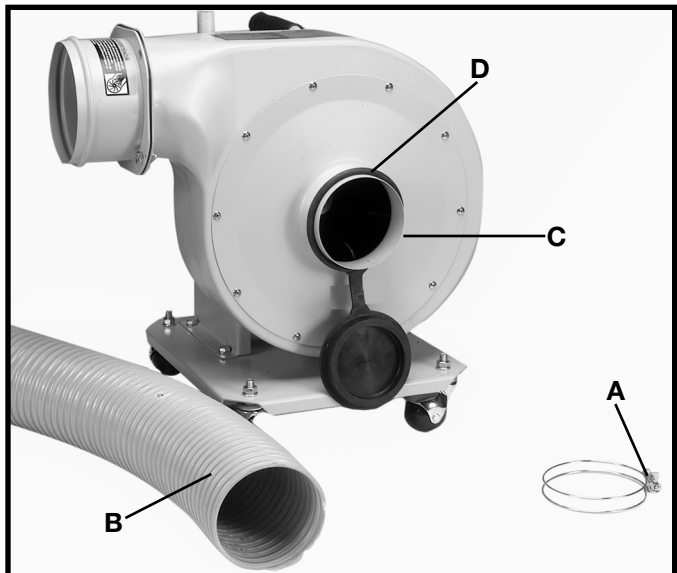
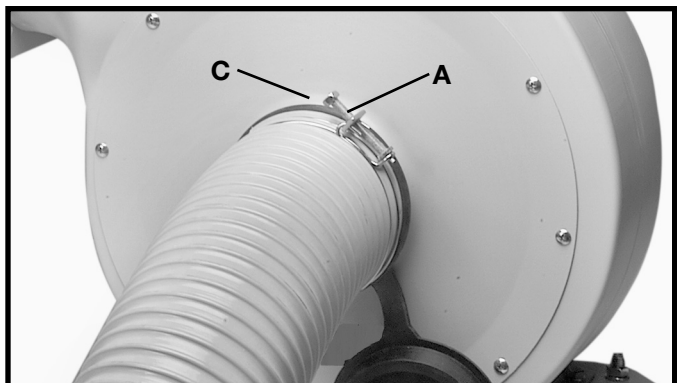

Fig. 15
Fig. 16
- Place the intake cap holder (D) on the dust collector as shown in Fig. 15. **NOTE: DO NOT COVER THE INTAKE PORT WITH THE INTAKE CAP WHEN ATTACHING THE HOSE TO THE INTAKE PORT.**
- Place hose clamp (A) Fig. 15, onto one end of vacuum hose (B) and slide hose around intake port (C) as shown in Fig. 16. Tighten hose clamp (A).